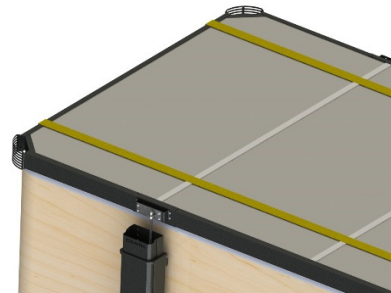

Figure 25
20. Using ratchet straps, compress the entire cover assembly (Figure 25) until you have a gap between the end c-channel and the middle c-channel of 1/16" to 3/16" (Figure 27). While you are compressing the cover make sure it stays as straight as possible and is safely staying on the foam bumpers.